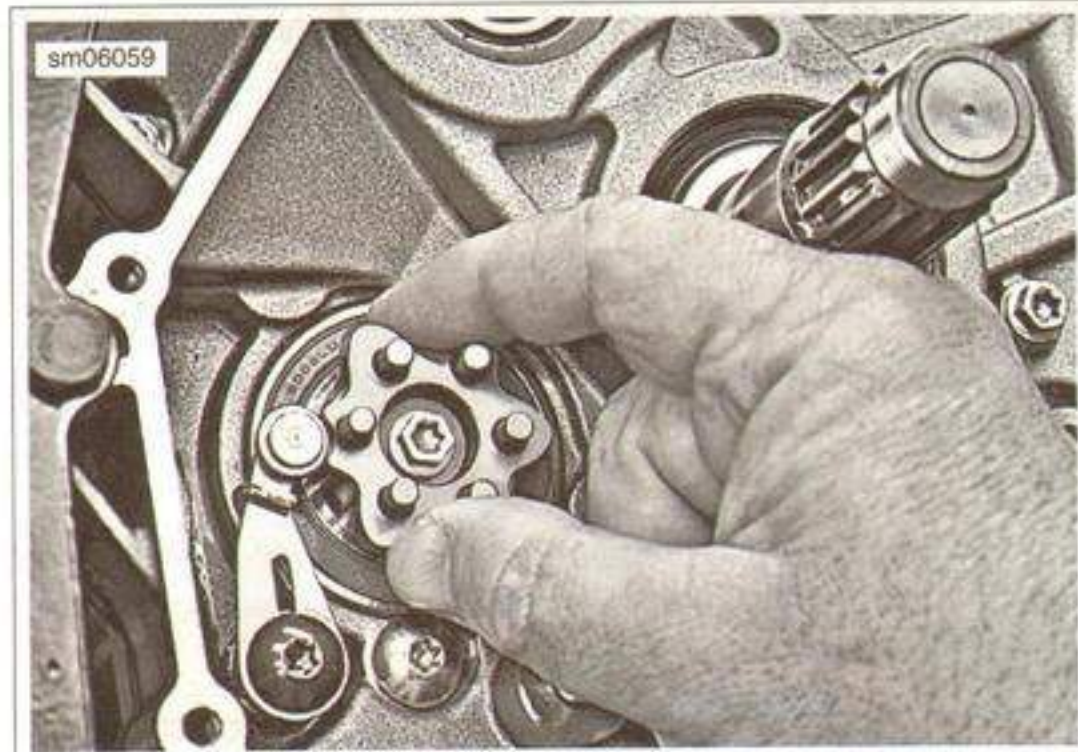

Figure 6-83. Index Shim in Neutral
4. See Figure 6-83. By hand, turn the index shim to shift up and down through each gear.